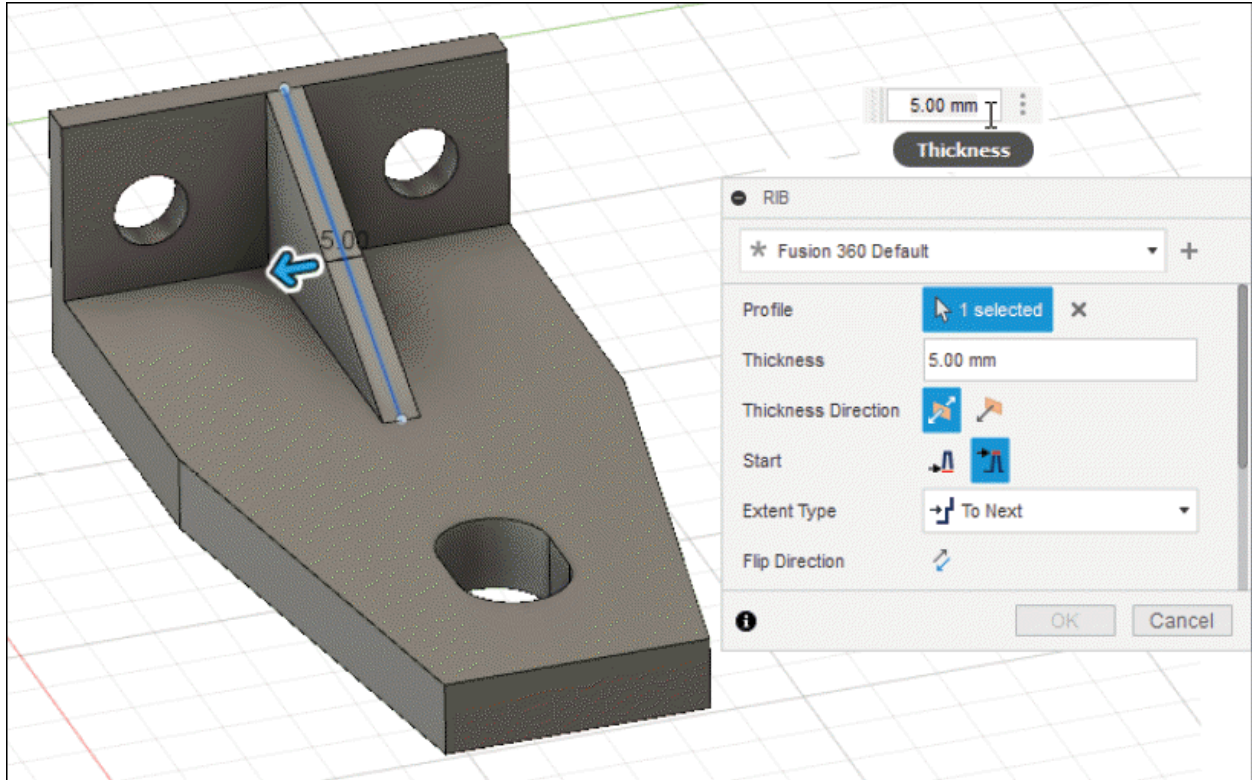

Figure-23. Preview of rib
- Click in **Thickness** edit box and enter **5** as thickness of rib; refer to Figure-23. (You might need to click on the **Flip Direction** button from the dialog box to get desired preview.)